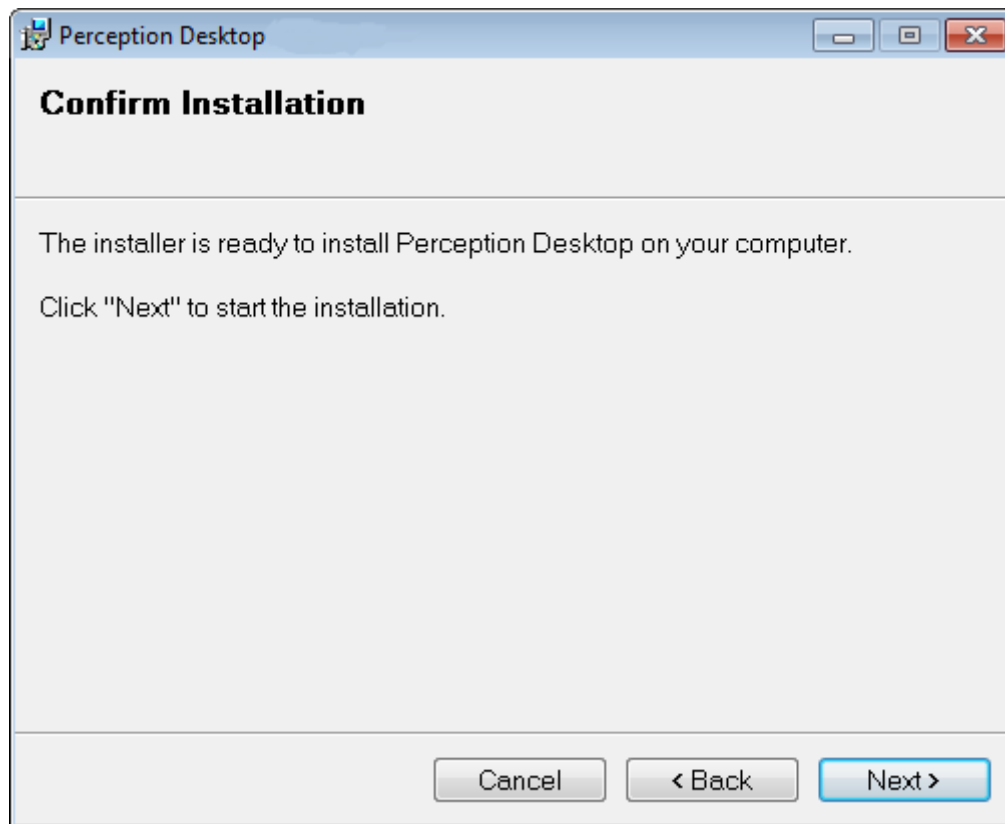

Figure 2-4: Confirm Installation
- 2.2.4 Click **Next** to start the installation, **Back** to backtrack and change some of the selections, or **Cancel** to quit the process entirely, as shown in Figure 2-4.